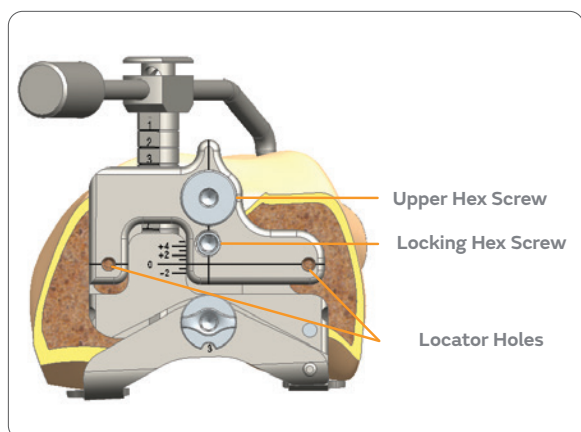
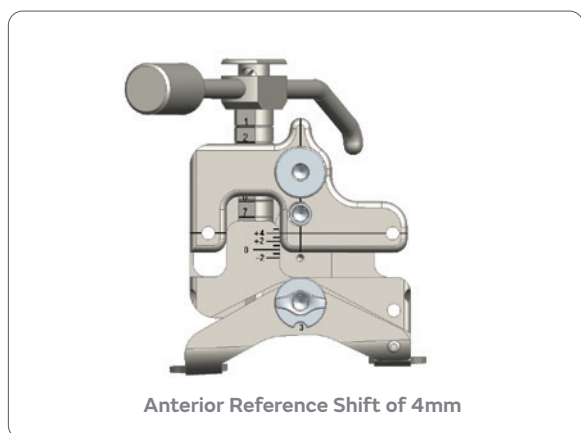

Figure 17
Figure 18a
3. Position the sizing guide stylus so that it contacts the lateral ridge of the anterior femoral cortex (highest point on the anterior cortex of the femur) (**Figure 17**).
5. If the indicated size is in-between sizes, you can turn the upper hex screw to shift the anterior surface up to an additional 4mm to the next smaller size or down an additional 2mm to the next larger size (**Figures 18a and b**). Once the appropriate size is selected, turn the locking hex screw to lock the anterior surface and locator holes into position (**Figure 17**).